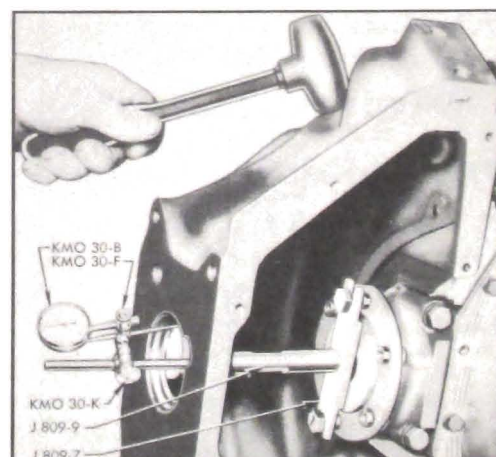

Figure 2-52—Aligning Housing
4. Install dial indicator as shown in figure 2-52 and check run-out at pilot hole in housing.